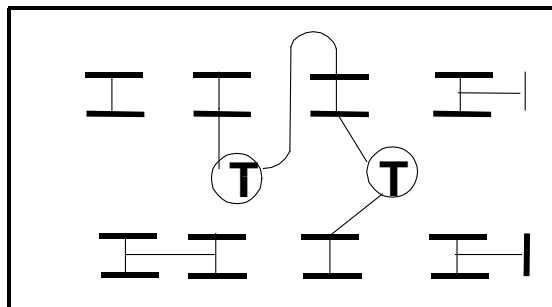

Fig. 4 Wired for 240VAC Operation
- Step 1: Wire Power Transformer Terminal block as illustrated in Figure 4.